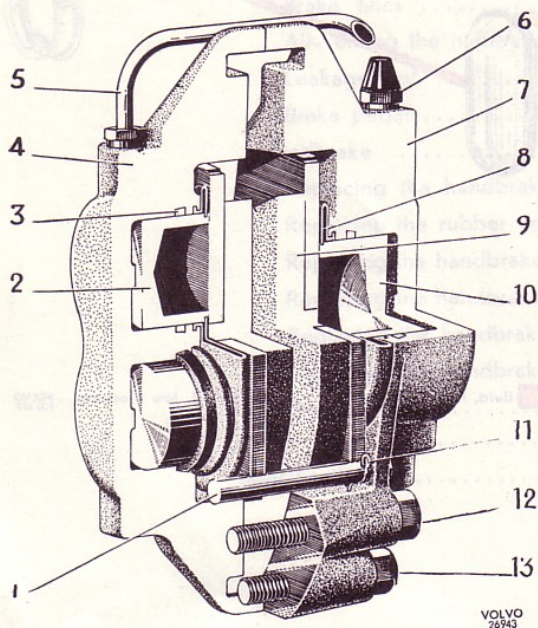
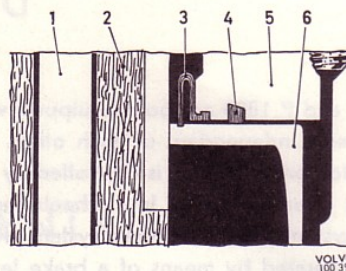
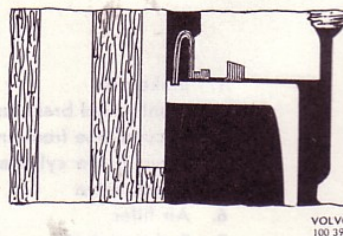

Fig. 2. Brake caliper.
Fig. 3. Rest position.
Fig. 4. Brake application.
On each stub axle there is a caliper containing the wheel unit cylinders and brake pads, see Fig. 2. This consists of two halves (4 and 7) joined together by bolts and located on either side of the brake disc. The plunger (10) and cylinder on the inner half are larger than those (2) on the outer half. The oil seals (3) prevent brake fluid from oozing out and rubber covers (8) prevent dirt from entering. The brake pads (9) are provided with moulded-in facings and are guided by means of guide pins (1).
Each oil seal (3, Fig. 2) has a square section and presses against the plunger from the slightly oblique groove in the housing. When the plunger is moved during brake application, the oil seal is displaced sideways, see Fig. 4. It remains in this state during the whole brake application process. When the brake pedal is released, the plungers are relieved of hydraulic pressure. Since there is no residual hydraulic pressure in the lines in this system, the tension in the oil seals is sufficient to move the plungers back a certain amount, see Fig. 3. This return movement constitutes the clearance between the brake pad and brake disc. This means that in the rest position the brake pads are always at a certain distance from the brake disc regardless of wear, so that the front wheel brake units are self adjusting.